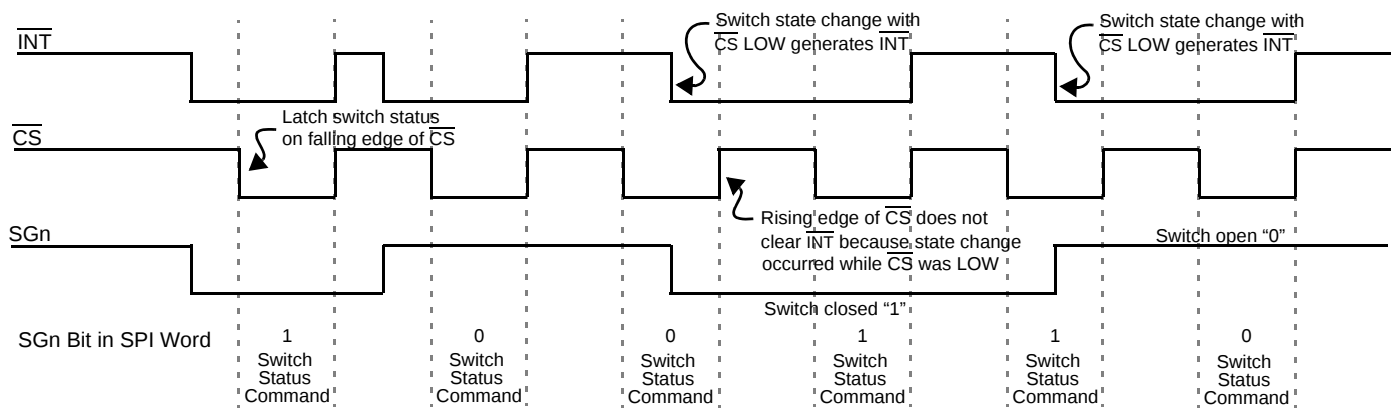

Figure 4. Normal Mode Interrupt Operation
2. $\overline{\text{INT}}$ terminal is reset to logic [1], except when additional switch changes occur during $\overline{\text{CS}}$ LOW. (See Figure 4 on page 8.)
Figure 4, page 8, is a graphical description of the device operation in Normal mode. Switch states are latched into the input register on the falling edge of $\overline{CS}$. The $\overline{INT}$ to the MCU is cleared on the rising edge of $\overline{CS}$. However, $\overline{INT}$ will not clear on rising edge of $\overline{CS}$ if a switch has closed during SPI communication ($\overline{CS}$ LOW). This prevents switch states from being missed by the MCU.